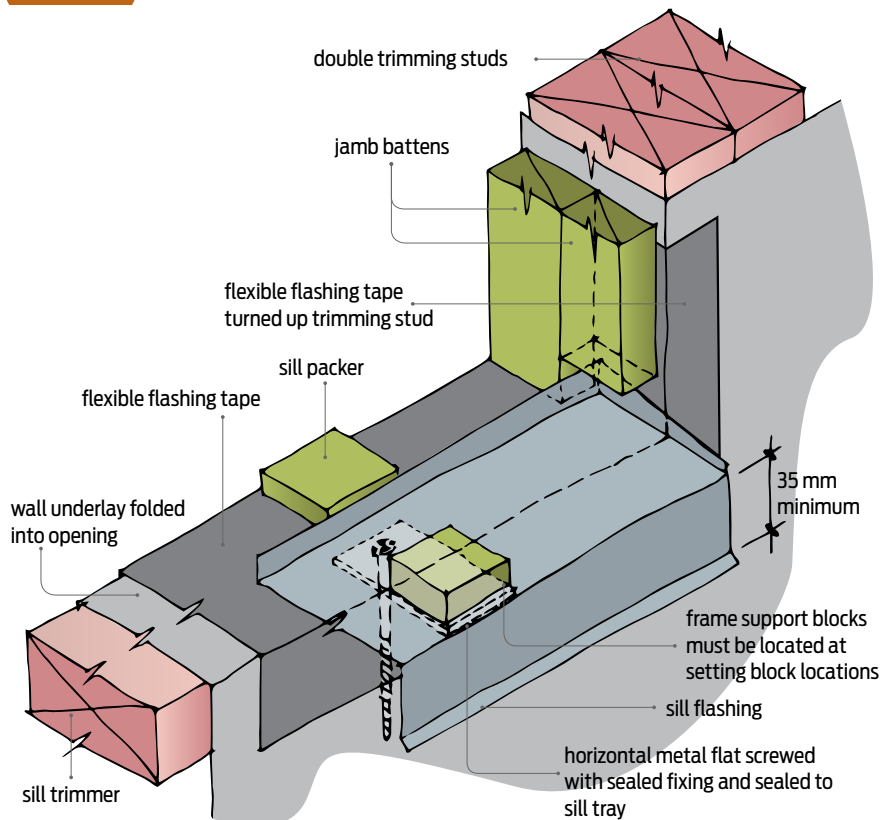

Figure 48 Horizontal metal flat supporting sill tray.
- a horizontal metal flat sealed to the sill tray and screwed with a sealed fixing into the upper face of the sill trimmer and projecting forward of the framing line on which a frame support block can be placed (see Figure 48).